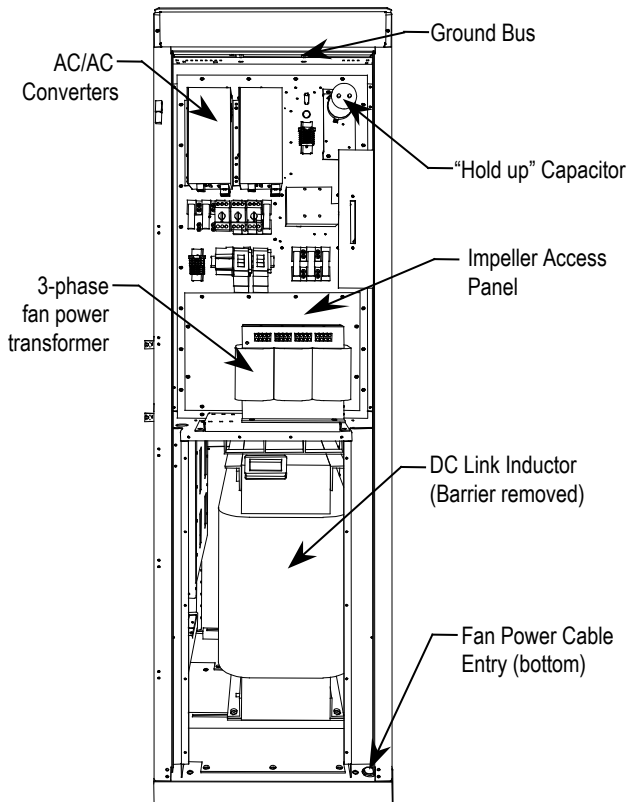

Figure 6.40 – DC Link and Fan cabinet with control panel shown
1. Remove DC Link Barrier and Impeller Access Panel (see Fig. 6.40). Remove electrical components in front of the inlet ring access panel.